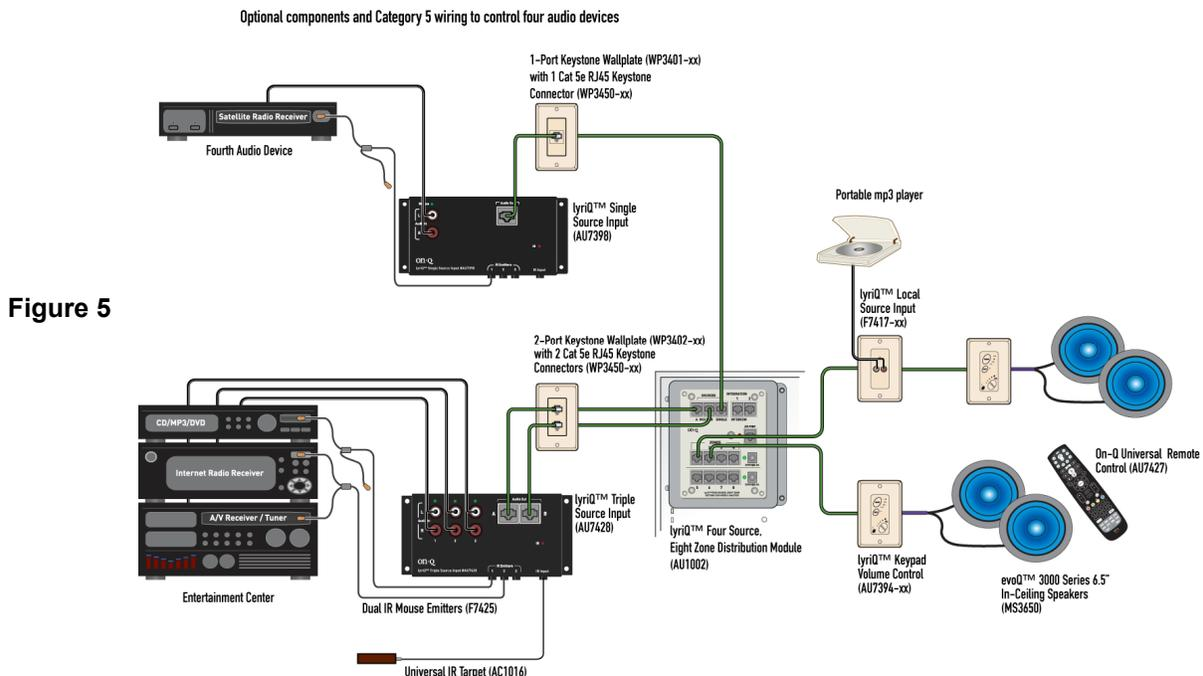

Figure 5
- The output from FOUR audio devices can be distributed throughout the house by also using the lyriQ™ Single Source Input along with the Triple-Source Input (P/N AU7428). Plan ahead for this by running extra Category 5 cables from the Enclosure to the room containing the source audio equipment (see **Figure 5**).
NOTE: Refer to Figure 5 on the prior page while performing the following installation: